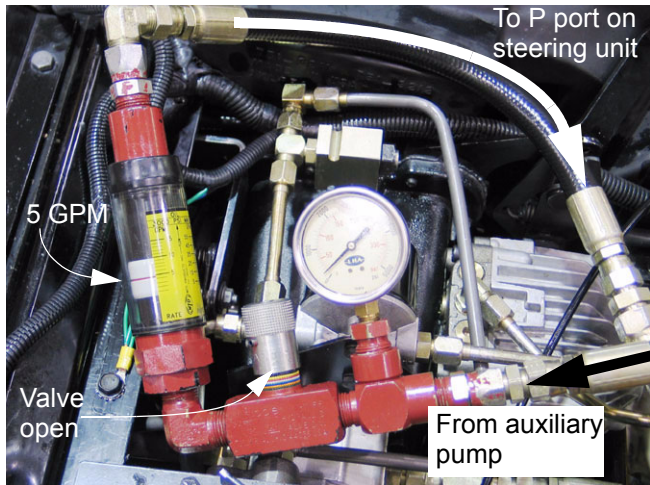

Figure 6.11
- 6.11. Start the engine, allow the engine and hydraulic system to warm-up. See Figure 6.11.